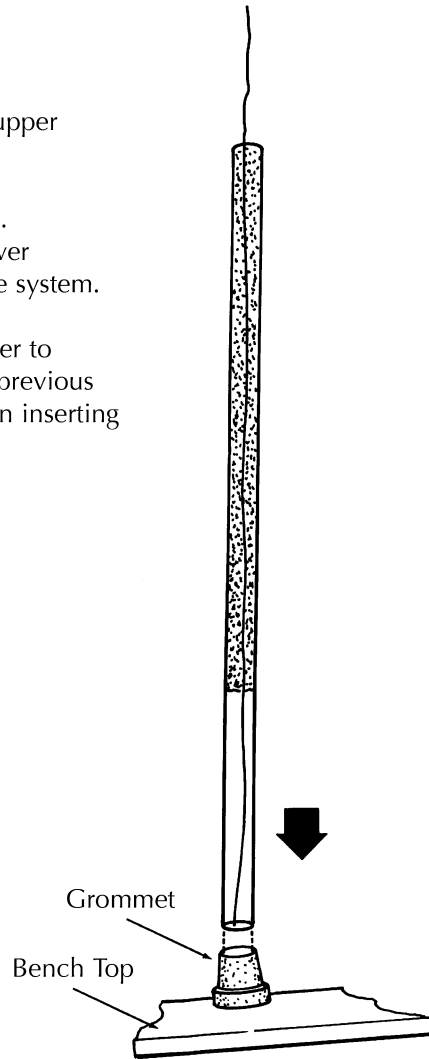

Figure 8a.
4. Place a grommet upside down on the bench top. Insert the top of a tube gel into the grommet and gently push the tube into the grommet (Figure 8a).